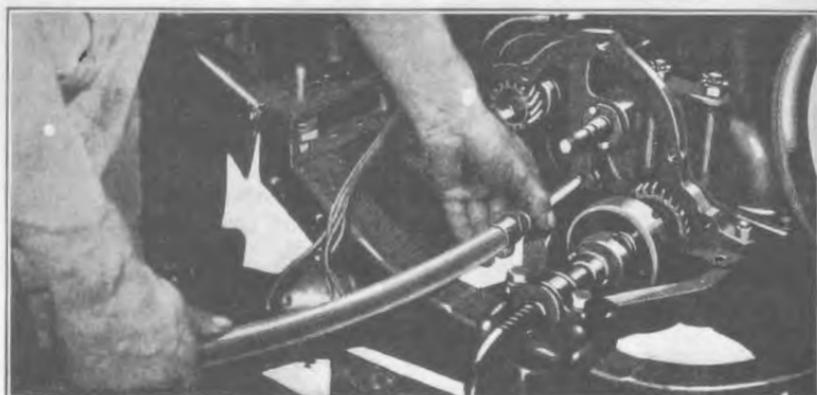

Fig. 294
- 490 Place nozzle of air hose in end of oil pipe (See Fig. 294) and blow out any foreign matter which may have accumulated in pipe. If no compressed air is available the feed pipe can be cleaned by forcing a small flexible cable through it.